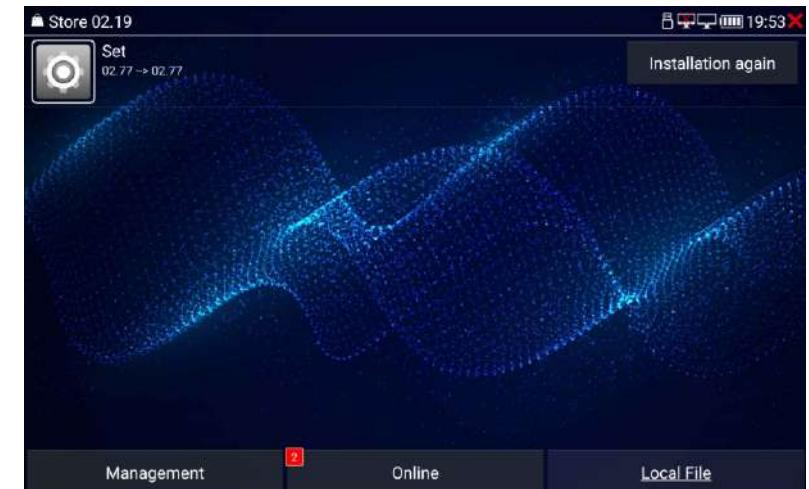

Figure 43
3) Local installation, touch ‘Local File’, the instrument will scan internal storage, SD card and U disk to look for installable software packages, long press corresponding Apps to delete application file, as shown in Figure 43